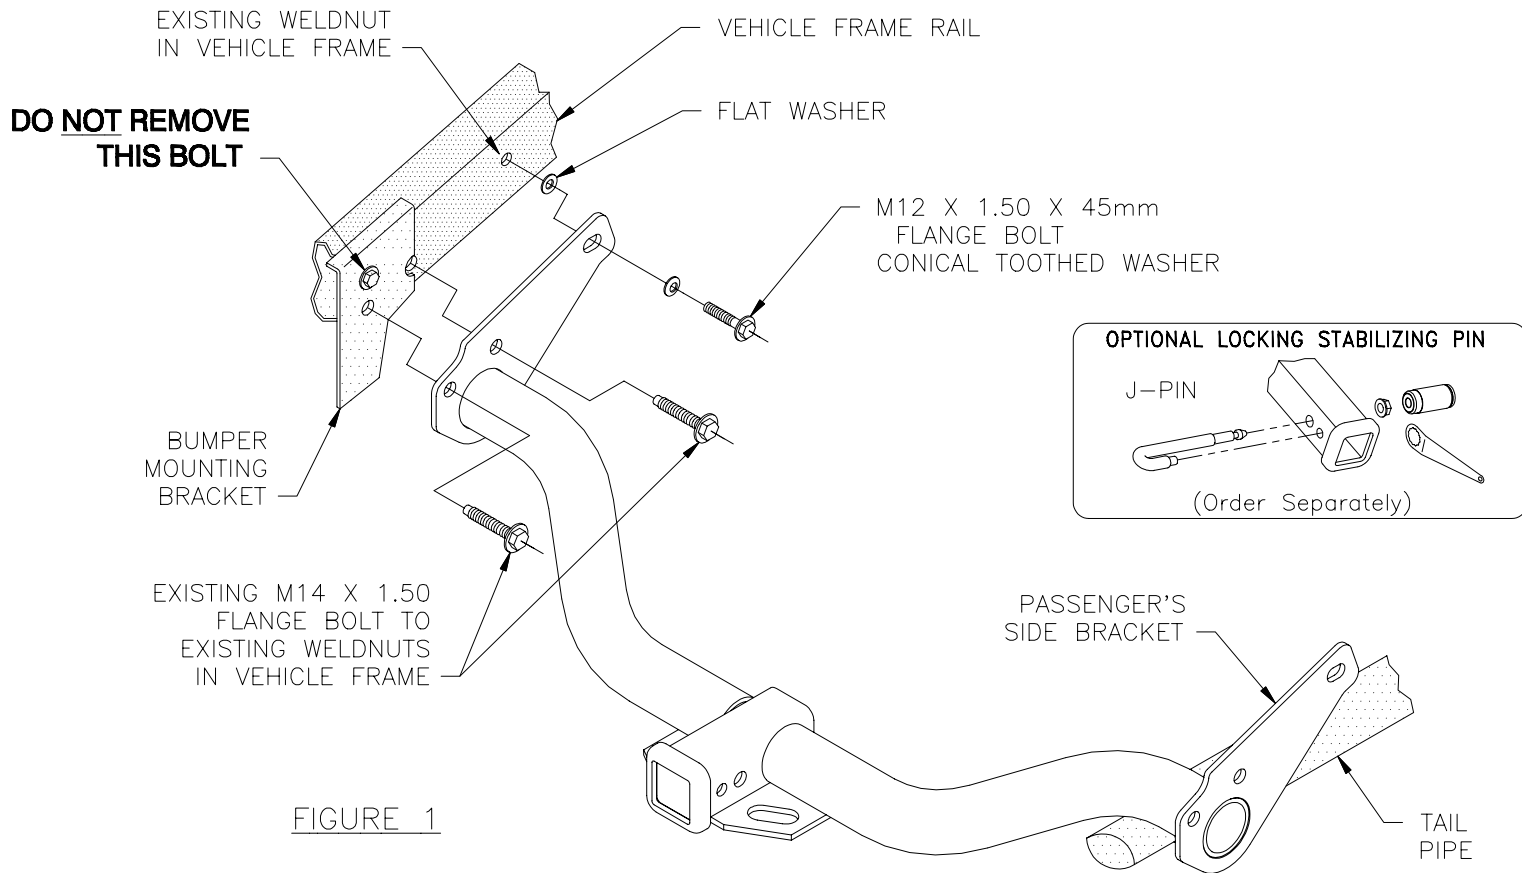

FIGURE 1
2. REMOVE (2) M14 BOLTS, EACH SIDE WHICH ATTACH BUMPER MOUNTING BRACKETS TO FRAME (SEE FIGURE 1). RETAIN BOLTS FOR HITCH INSTALLATION.
**NOTE:** IT MAY EASE INSTALLATION TO LOWER EXHAUST BY REMOVING (3) EXHAUST HANGER BOLTS FROM EXHAUST HANGER BRACKET.